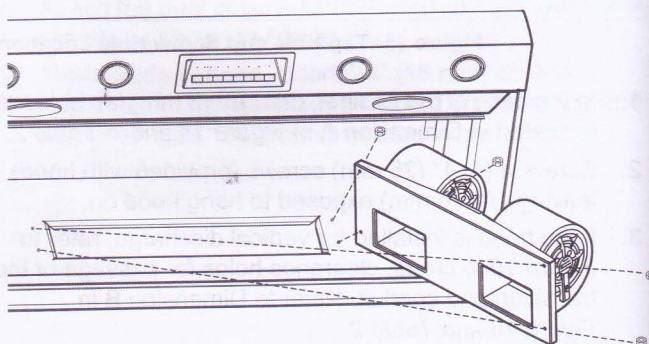

Figure 17: Weld Stud Locations
1. The blower is attached to the hood using weld studs provided on the mounting plate. *Figure 17* displays the weld stud locations.
3. Attach (4) nuts (included with hood) to the weld studs. Tighten nuts to secure the blower to the hood.